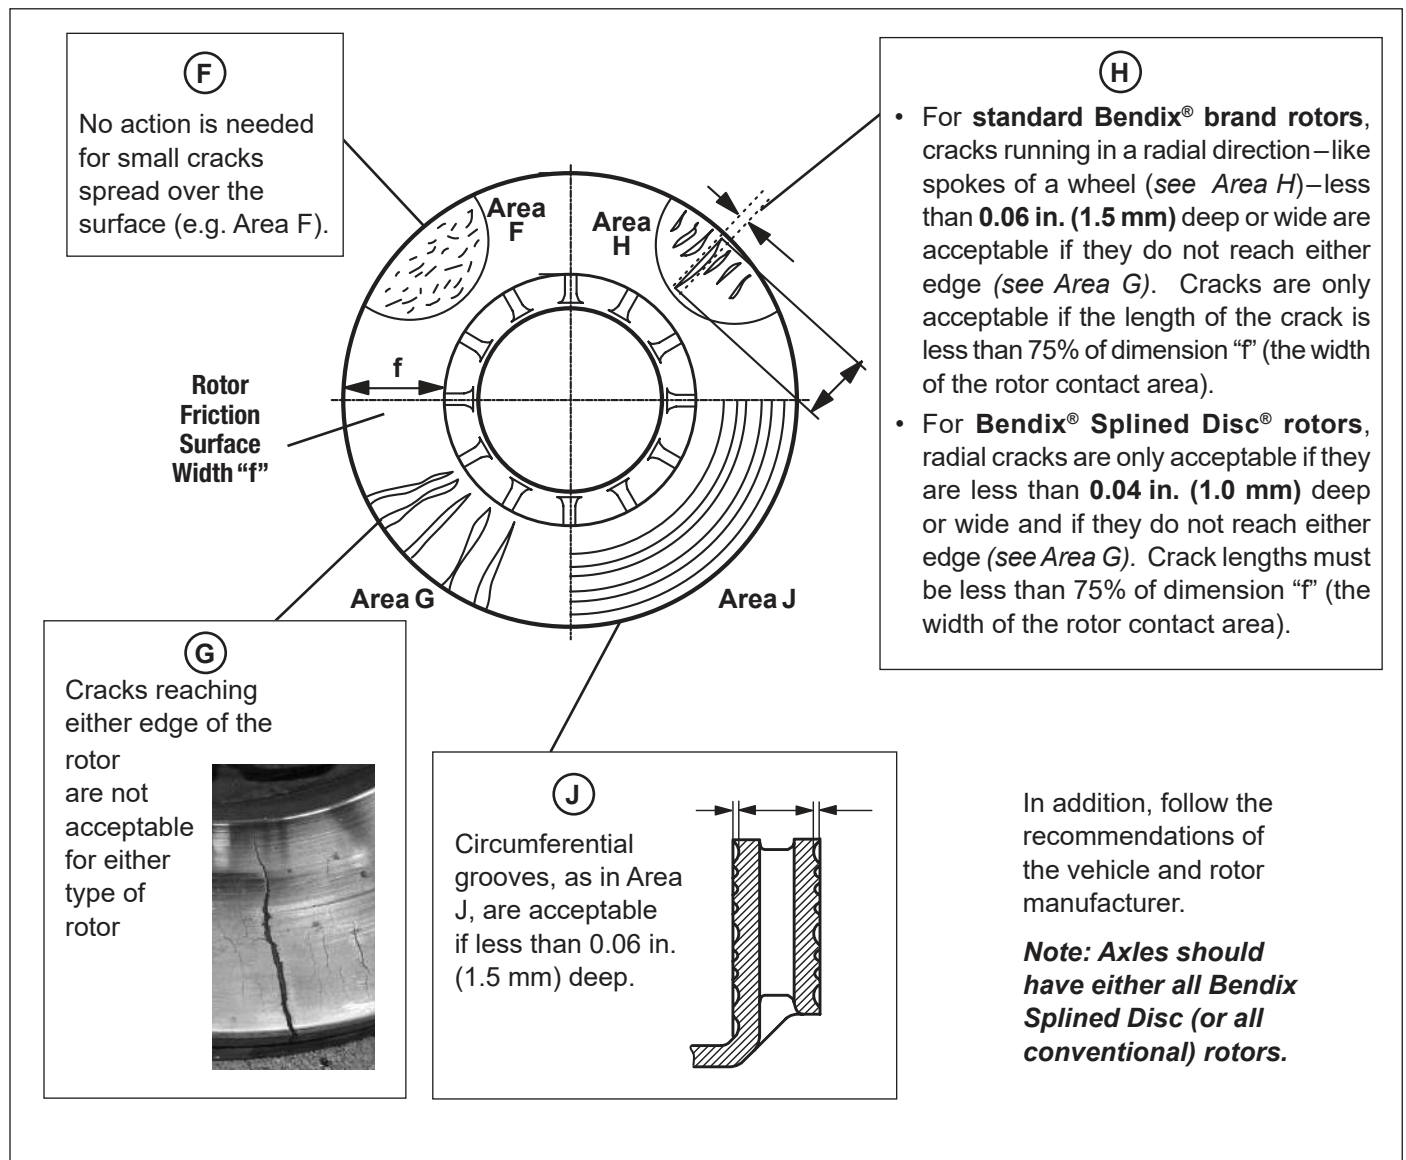

Figure 25 – Examples of Acceptable and Non-acceptable Rotor Conditions
4.4.2 Inspect the rotor surface. See Figure 25. The type of rotor, and also the size, depth, and direction of the imperfections, must all be considered.